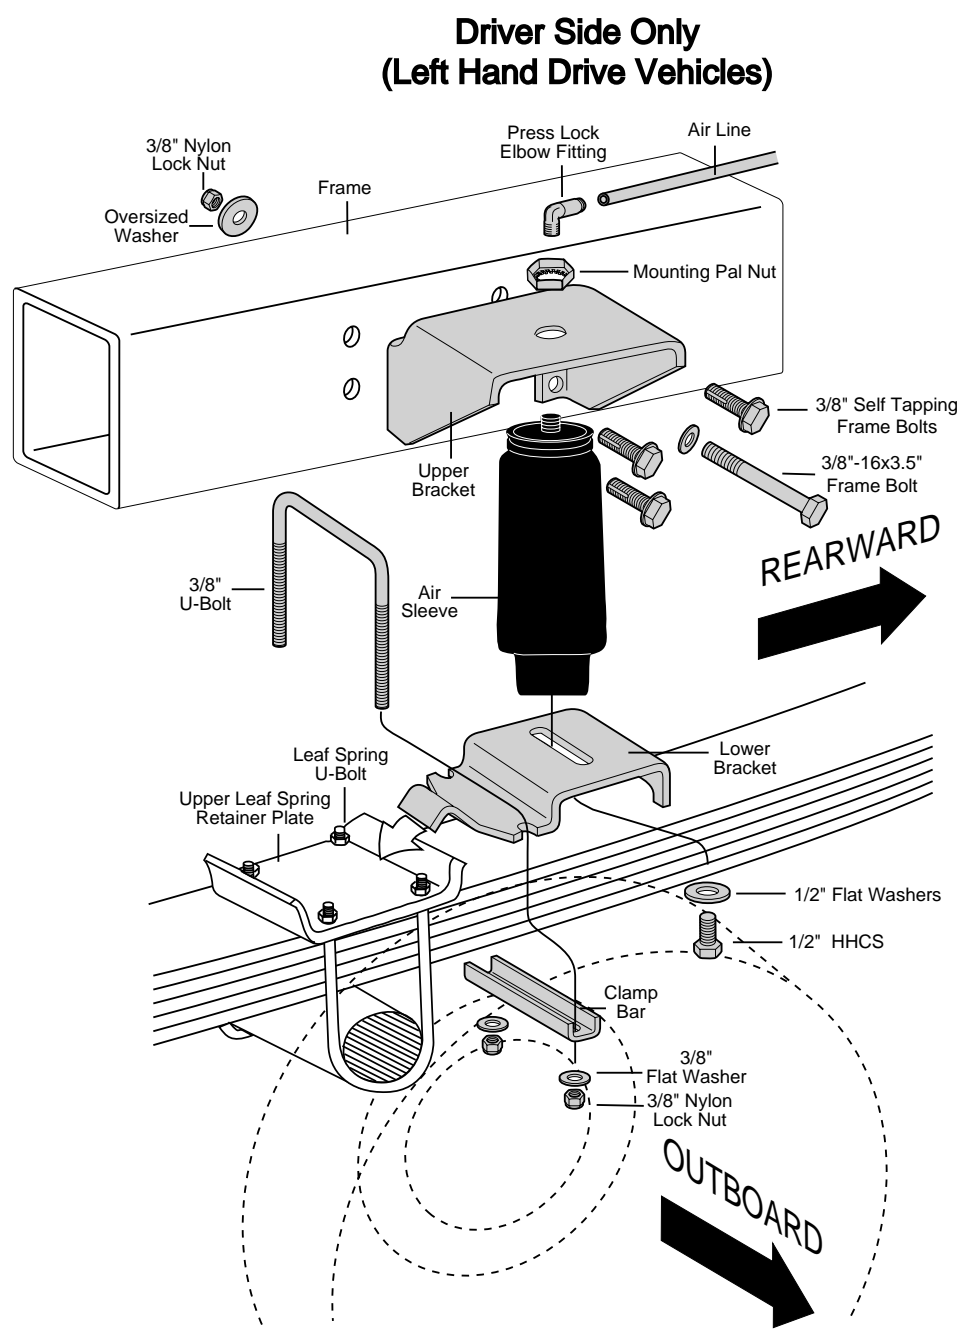

Figure 1
Figure 1 represents a TYPICAL installation. Your vehicle may look slightly different due to make, model or year.
2. LOOSELY attach the lower bracket to the bottom of the sleeve. Using the provided 1/2" flat washer and the 1/2" HHCS bolt as shown in Figure 1.
3. Now attach the lower bracket to the leaf spring as shown in Figure 1. The bracket will locate over the edge of the spring retainer plate (Figure 1). Tighten nuts to 20 ft-lbs on the 3/8 U-bolt.
5. **The driver side (US) will require the use of three 3/8 self tapping frame bolts (Figure 1).** Drill 5/16" holes to install these bolts. The fourth bolt (Lower, rear hole) is a 3/8-16x3.5" frame bolt that will go all the way through the frame attached by a washer and locknut on the other side and tightened to 20 ft-lbs. Drill a 3/8" hole for this bolt (Figure 1).